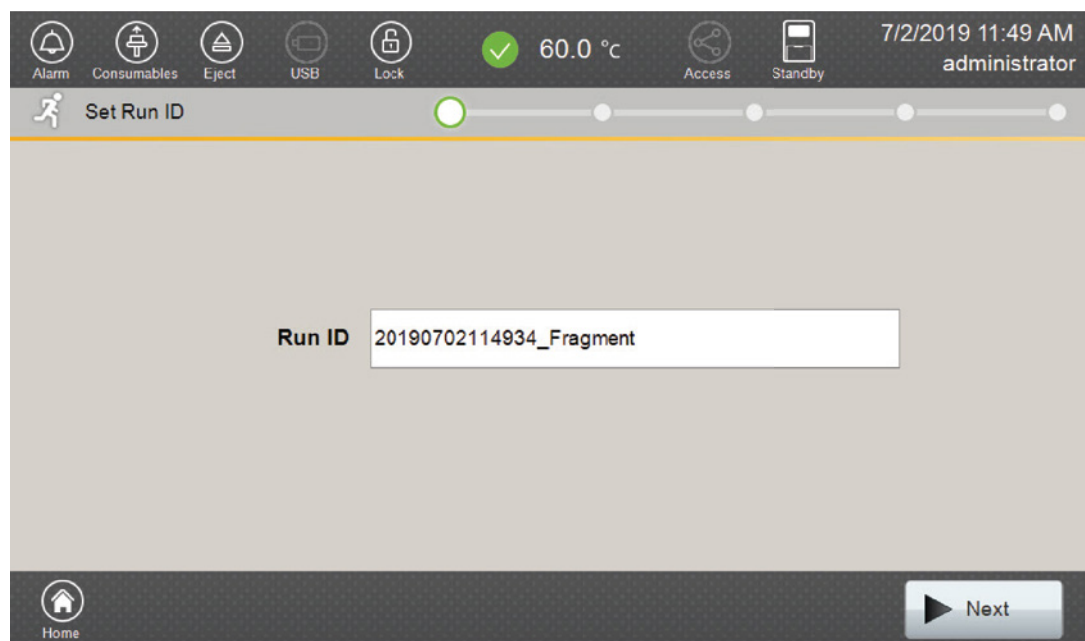

Figure 7. 'Set Run ID' screen.
4. Use the default name that includes date, time and "Fragment" or enter a Run ID on the 'Set Run ID' screen (Figure 7). Select the **Run ID** box to open the 'Run ID' window and a keypad will become active on the touch screen. Alternatively, the Run ID can be entered using a traditional keyboard if one is connected to the Spectrum Compact CE System.